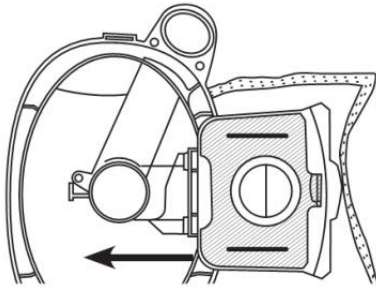

Fig 3
5. The cardboard face of the new bag should rest securely in the dust bag cover guide.(Fig 3)